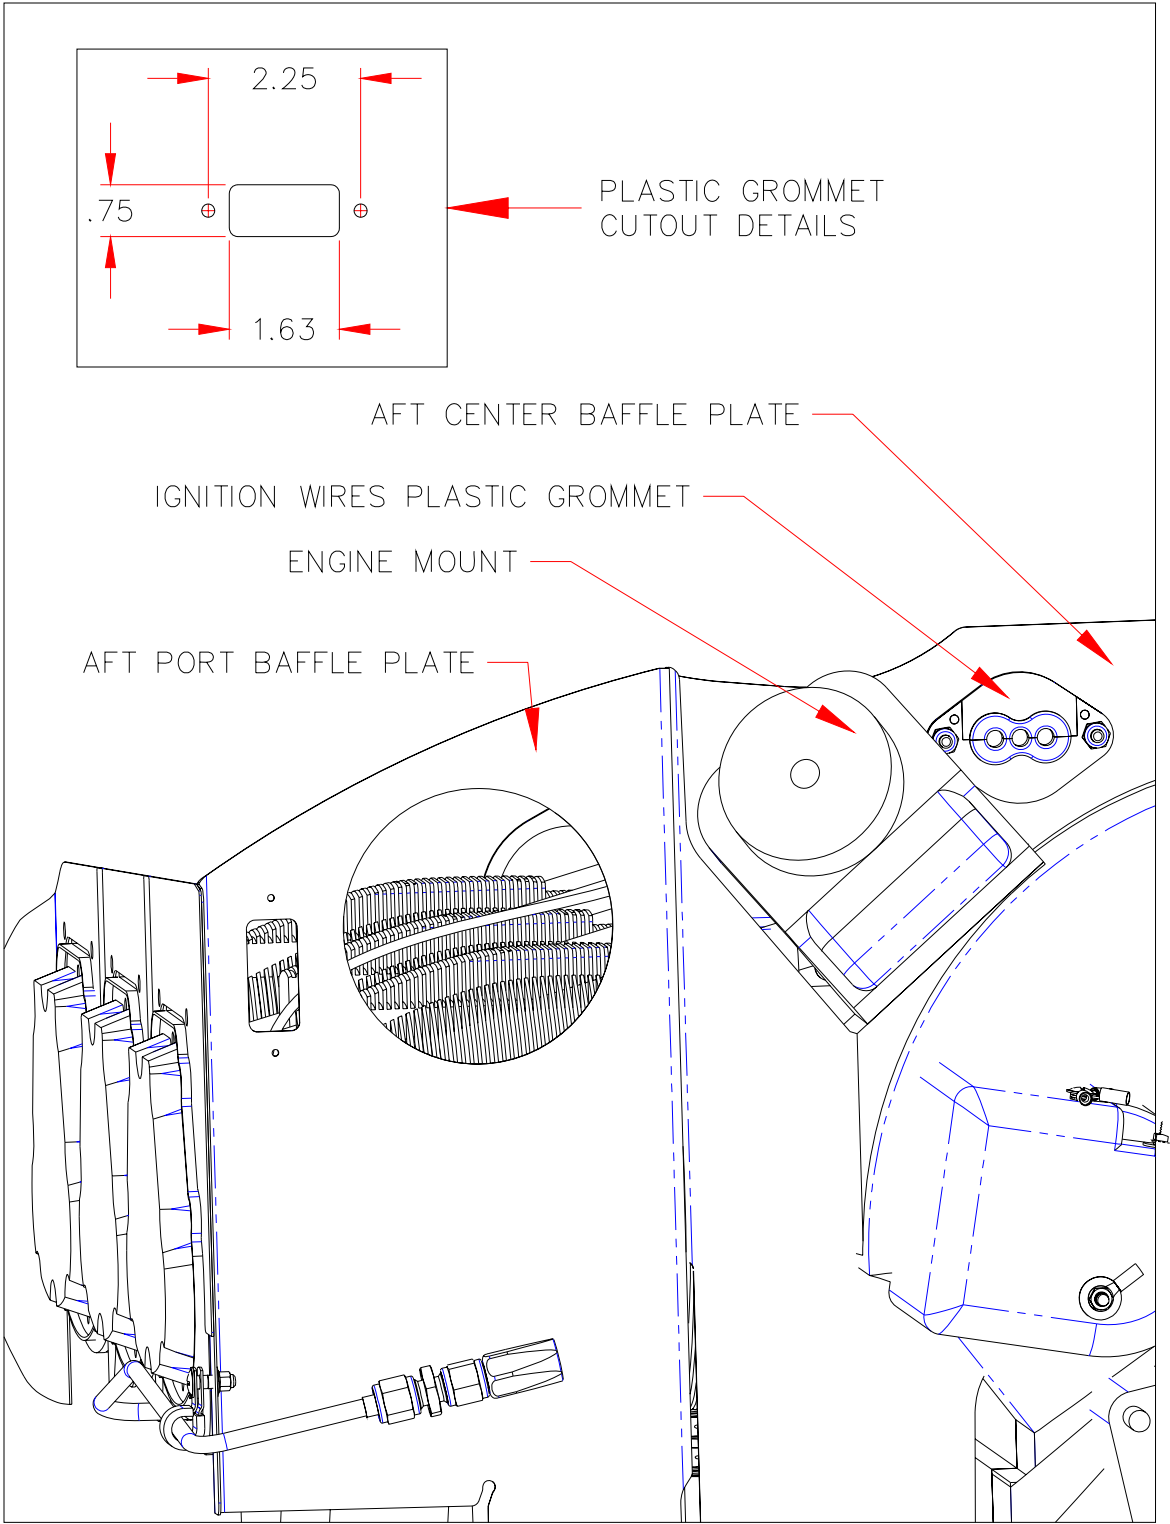

FIGURE 3 IGNITION WIRES GROMMET RELOCATION
5. Relocate the plastic grommet to the port side of the aft center baffle plate as shown in Figure 3. The grommet should be located as far outboard as possible while not causing the ignition wires to abrade against the engine mount.